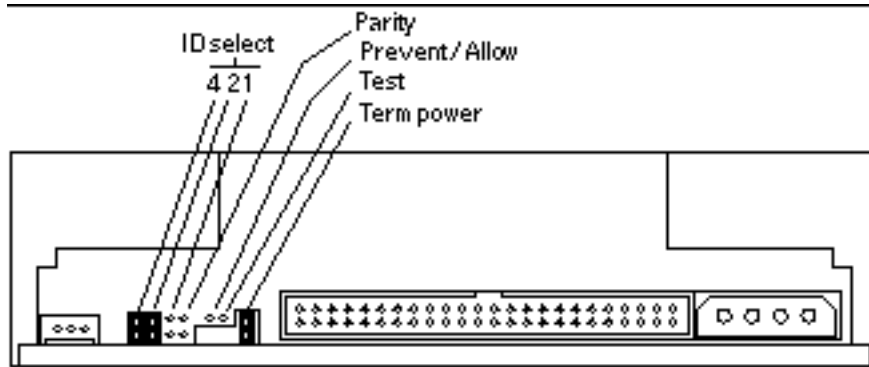

Figure 9-5 Jumper Settings for the CD-ROM Drive
2. **Ensure that the jumper settings on the replacement drive match those shown in Figure 9-5.**